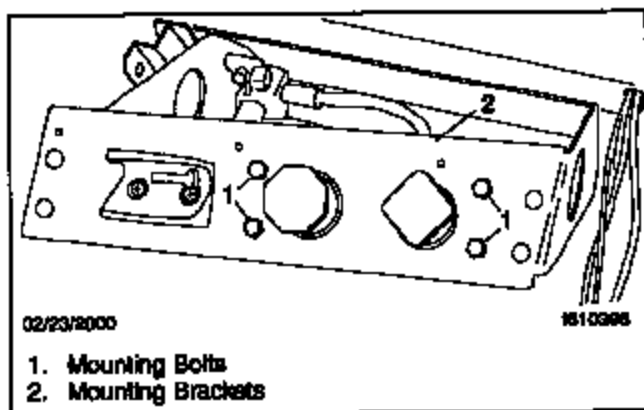

Fig. 7, Park Brake Valve and Mounting Bracket
6. Remove the mounting bolts securing the valve to the bracket and remove the valve. See Fig. 7.